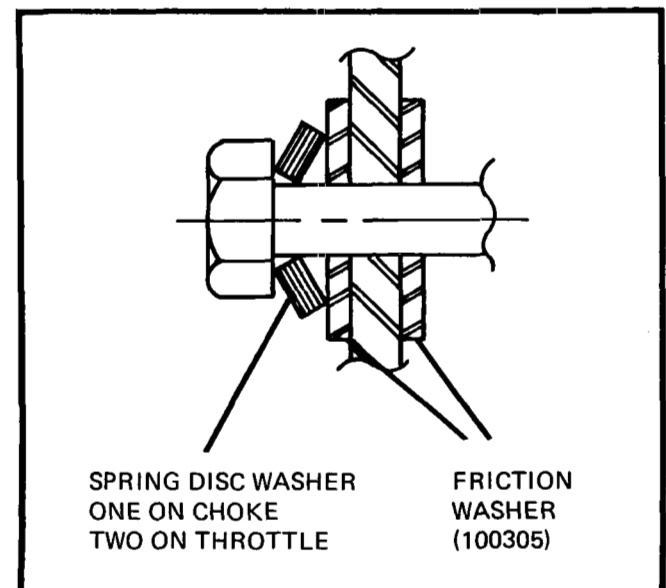

Fig. 1-1 Control Friction
- Install spring disc washers on choke and throttle controls as shown in Fig. 1-1.